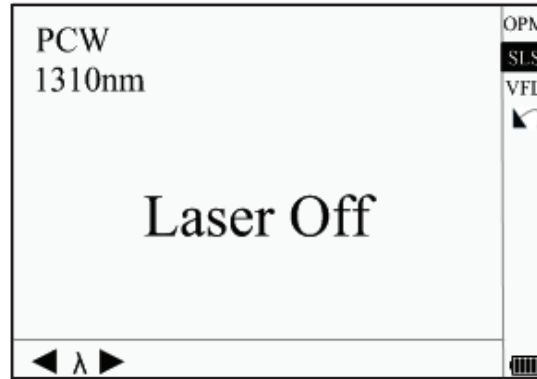

Figure 4-12. Stabilized Laser Source
1. Enter PM/LS interface as described in “Power Meter, Laser Source, and VFL Configuration” in Section 3. Use ▲ and ▼ to highlight “SLS”, and press **Enter** to enter SLS interface (Figure 4-12).